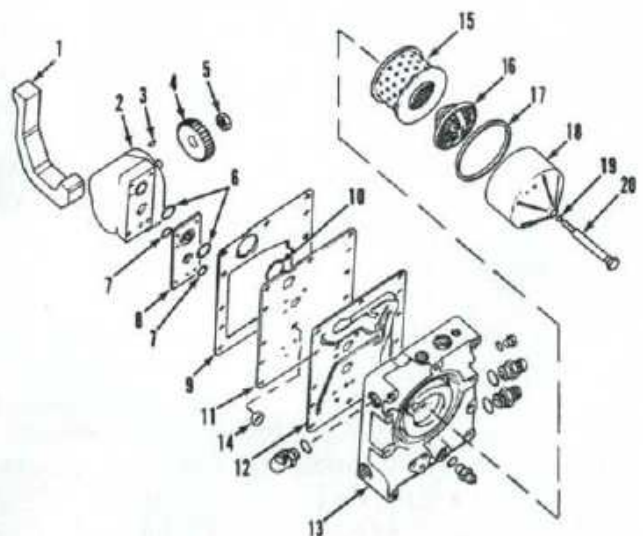

Fig. 32—Exploded view showing hydraulic pump, filter, multiple control valve and relative components.
20. **OPERATION.** Power steering is standard equipment on all models. The internal hydraulic pump (2—Fig. 32) pulls oil from the reservoir through a full flow suction filter installed in the outside of the multiple control valve (13). The filtered oil is pressurized by the pump and is supplied to the priority flow divider valve in the multiple control valve. The flow divider valve directs 3 gpm (11.35 L/min.) of oil to the steering system at all engine speeds. The fluid enters the hand pump and flows through the 2150 psi (14824 kPa) relief valve. With steering wheel in neutral position, oil flows out of return port and back to the multiple control valve. If steering wheel is turned in either direction, fluid in the hand pump will be directed through the metering valve to the desired steering cylinder port. Return oil from the cylinder flows back through the hand pump and on to the multiple control valve.
The filter element (15—Fig. 32) should be renewed after 20 hours, 200 hours and then every 800 hours of operation. Hydraulic fluid should be drained and new fluid installed every 800 hours of operation or once a year, whichever occurs first. Only Hy-Tran Plus fluid should be used and level should be maintained at full mark on dipstick. Refill capacity is 36 U.S. quarts (34 L) on tractors without front drive axle and 38.6 U.S. quarts (36.5 L) on tractors with front drive axle.
(15 through 20—Fig. 32). Disconnect steering lines, oil cooler line, hitch supply line, auxiliary valves return line and pto line from multiple control valve (13). Immediately cap or plug all openings. On models equipped with XL cab, remove left console. On all models, disconnect and remove park brake warning switch wires and linkage. Disconnect and remove pto operating lever. Remove two cap screws from opposite sides of multiple control valve. Install two  $3/8 \times 5$  inch guide studs in the holes to aid in removal and installation of the assembly. Remove the balance of the retaining cap screws, then slide multiple control valve outward from rear main frame. Lay the assembly on a clean bench. Remove the four cap screws and copper washers, then lift off hydraulic pump assembly (2) and spacer plate (8), if so equipped.
**NOTE: Spacer plate (8) is used only on tractors equipped with a 23 tooth pump drive gear.**